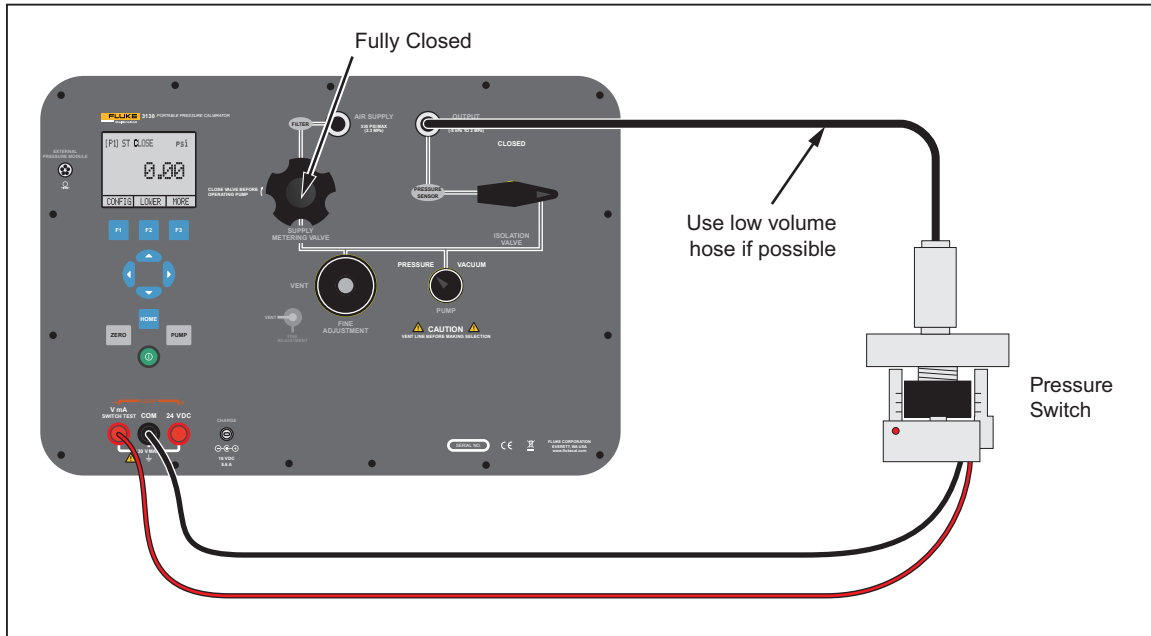

Figure 20. Switch Test Connections
2. Connect the Product to the pressure switch with the switch terminals. The polarity of the terminals is not important. See Figure 20.